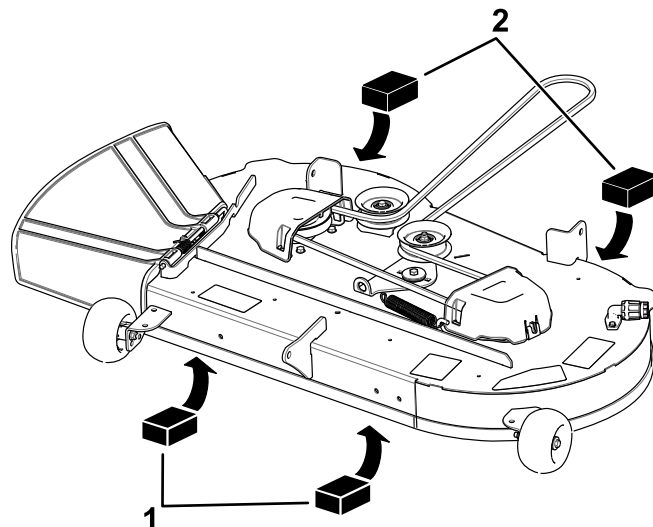

Figure 60
4. Place 2 blocks, each having a thickness of 6.6 cm (2-5/8 inches), under each side of the front edge of the deck but not under the anti-scalp roller brackets (Figure 60).
5. Place 2 blocks, each having a thickness of 7.3 cm (2-7/8 inches), under the rear edge of the cutting deck skirt, 1 on each side of the cutting deck (Figure 60).